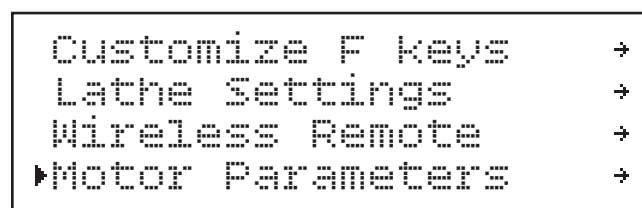

Figure 125. Motor Parameters submenu.
1. Press Menu button and use spindle speed dial to scroll down to Motor Parameters submenu, as shown in **Figure 125**.